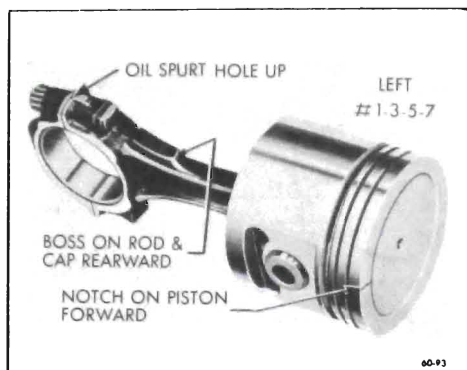

Figure 60-235--Left Bank Piston and Rod Assembly (400 and 430 cu.in. engines)
2. If the piston and rod assembly is to be installed in the *left* bank, the assembly must be made as shown in Figures 60-235 and 60-235A.
15. Install all other piston and rod assemblies in same manner. When piston and rod assemblies are properly installed, the oil spurt holes in the connecting rods will be "up" toward the camshaft, the rib on the edge of the rod cap will be on the same side as the conical boss on the connecting rod web, and these marks, (rib and boss) will be toward the other connecting rod on the same crankpin. See Figure 60-235 and 60-236.